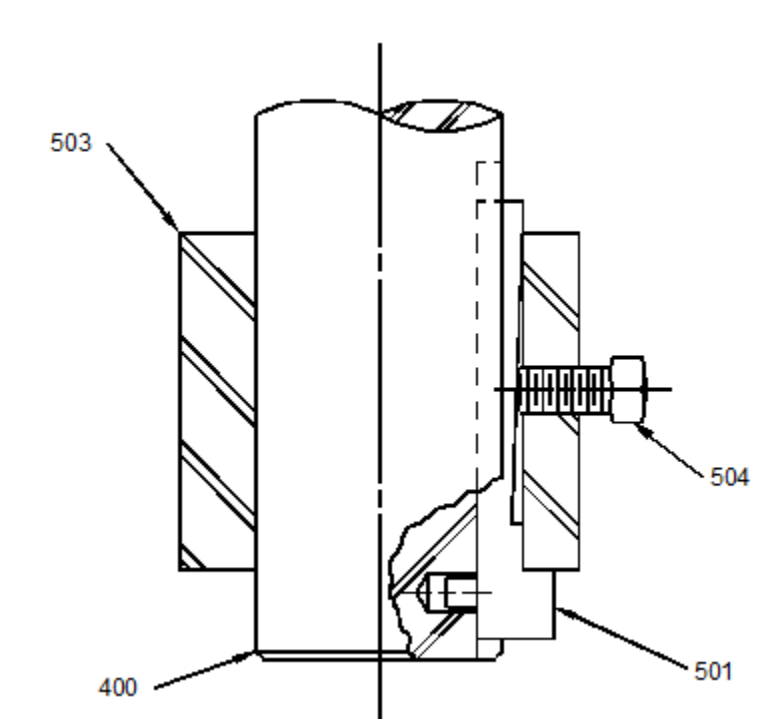

Figure 10: Turbine Hub Installation
Unless otherwise specified on the unit assembly drawing, the impeller attaches to the shaft with a key and setscrew. Refer to Figure 10, page 23. With extended shaft keyways, the keyway is drilled at intervals for optional impeller placement.
1. Slide hub [503] onto agitator shaft [400] up past the desired key location. Place pin key [501] into shaft keyway so that pin extends into the drilled hole in shaft keyway (see Figure 10 for key orientation). Slide hub back down agitator shaft, over key, until the hub rests on the key.